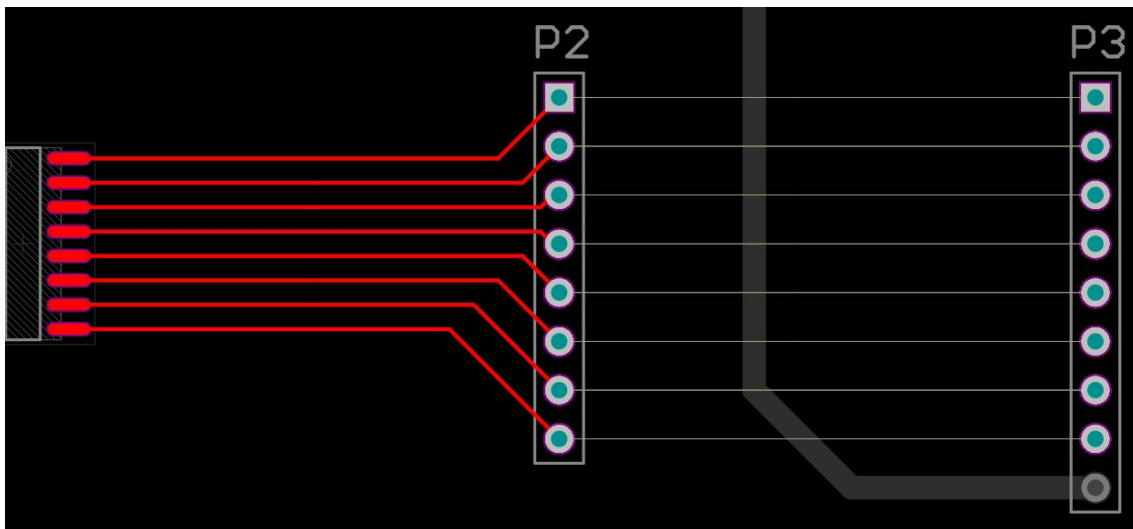

Figure 6. Results of ActiveRoute with only Top Layer enabled
14. Switching back to the *PCB ActiveRoute* panel, notice only the Top Layer is enabled. Click on the **ActiveRoute** button to run ActiveRoute. Notice only the R1 to P2 traces have been added, Figure 6. This is due to the existing Top Layer route.